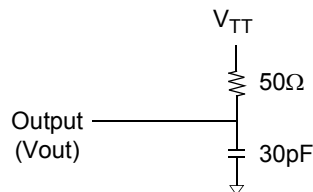

Figure 5. Timing Reference Load
3. Figure 5 represents the timing reference load used in defining the relevant timing parameters of the part. It is not intended to be either a precise representation of the typical system environment nor a depiction of the actual load presented by a production tester. System designers will use IBIS or other simulation tools to correlate the timing reference load to a system environment. Manufacturers will correlate to their production test conditions (generally a coaxial transmission line terminated at the tester electronics).